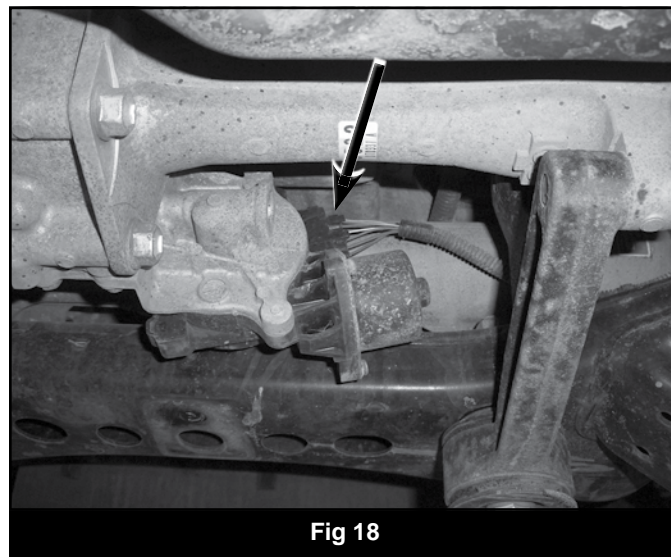

**Fig 16**
20. Disconnect the lower strut mounting bolt and remove from the lower control arm (Fig 16). Allow the lower control arm to swing down. Save the strut mount hardware.